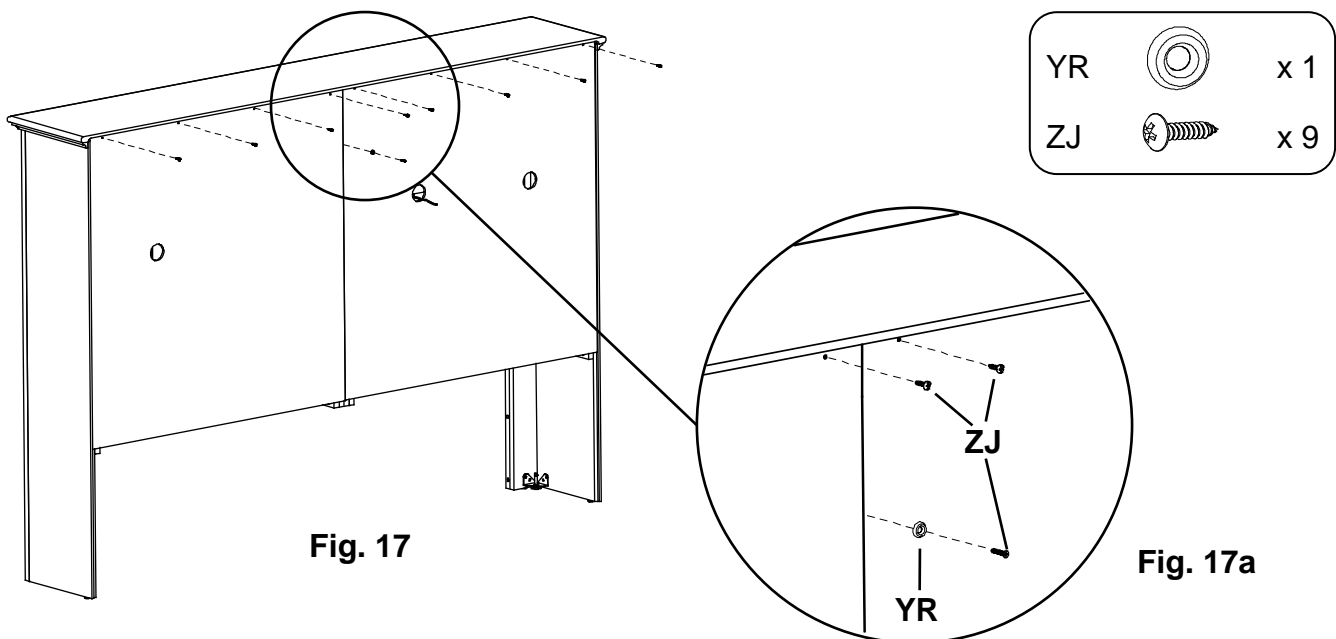

Fig. 17
17. To divide the Headboard Assembly into three sub-assemblies, start by removing the Top Assembly (XA). Remove the #6 x 5/8" Philtruss Screw (ZJ) and #8 Washer (YR) connecting the Backs to the Vertical Divider, and the #6 x 5/8" Philtruss Screws (ZJ) connecting the backs to the Top Assembly. Do not remove the Backs. See Figures 17 and 17a.